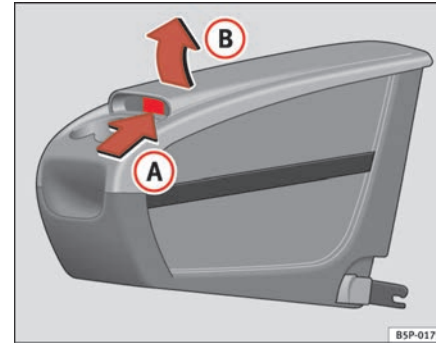

Fig. 114 Mobile stowage compartment Opening
- Lift the cover **(B)**, in area **(A)** ⇒ page 144, fig. 114.